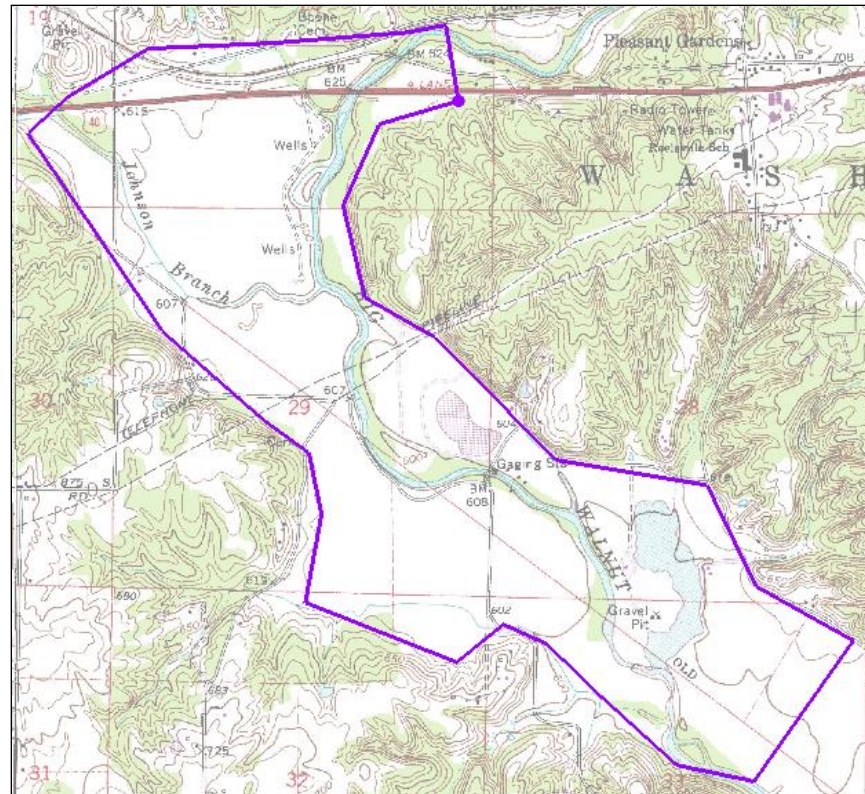

Figure 3 Boundary arcs
It is now possible to enter the model data. First, create a MODAEM conceptual model. Second, create coverages to define the boundary conditions and aquifer properties. The boundary of the model is shown in Figure 3.
10. Using the **Create Arc** tool, click out the boundary as shown in Figure 3 below.